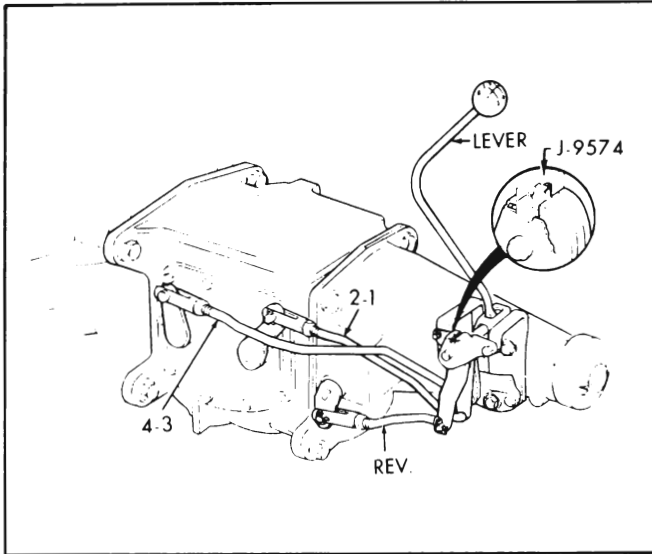
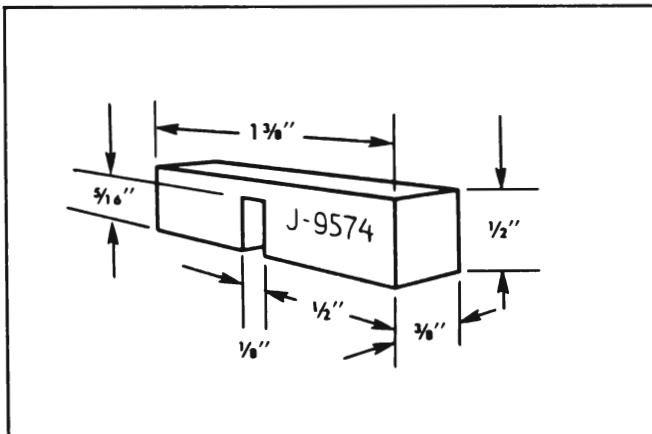

Figure 4-40—Four-Speed Transmission Gearshift Linkage
Figure 4-41—Linkage Gauge Block J-9574
(fig. 4-40), utilizes three shift rods and levers. A simple gauge block, shown in Figure 4-41, will aid in making the proper adjustments. The adjustments can be made without the gauge block by having an assistant hold the manual shift lever in the neutral positions for each gear.
2. Place transmission in neutral and install gauge block, J-9574, in position shown in Figure 4-40.